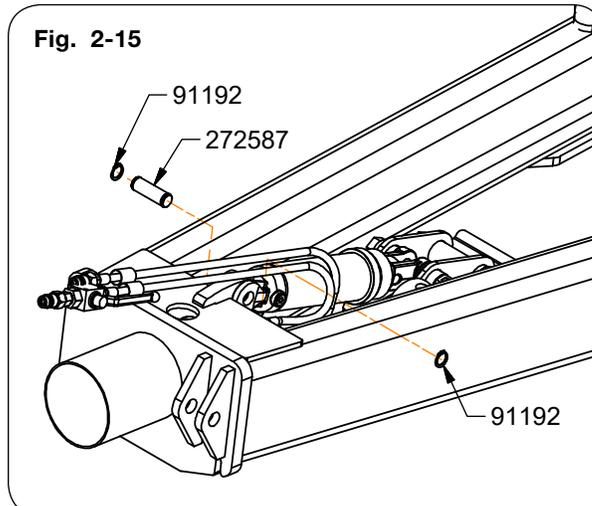

Fig. 2-15
6. Align the base end of the cylinder with the lug on the top of the tongue and assemble the cylinder pin (272587) and snap rings (91192) shown in figure 2-15.